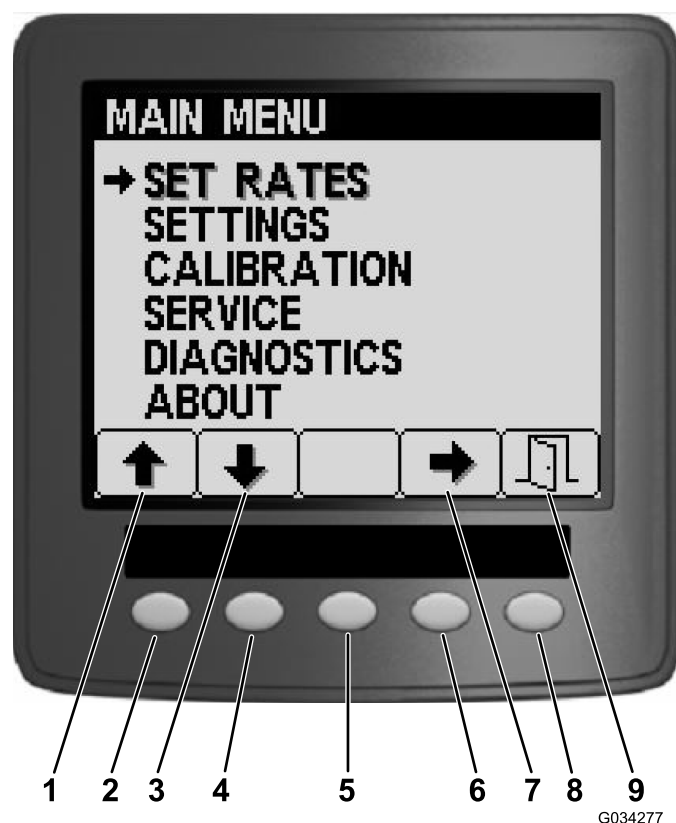
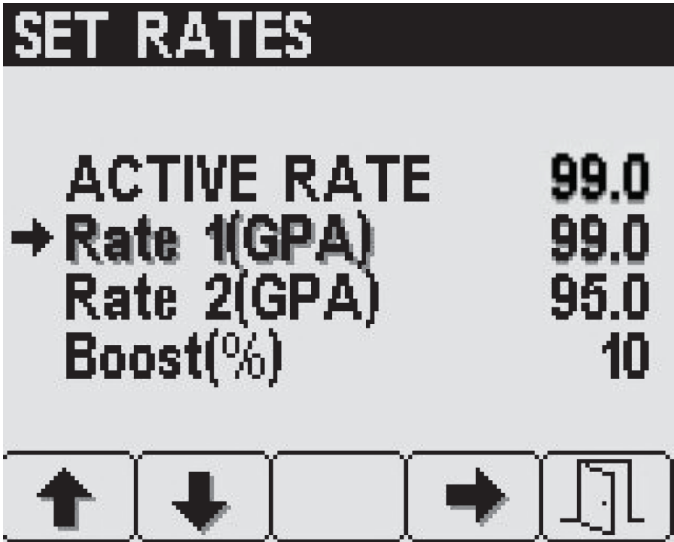
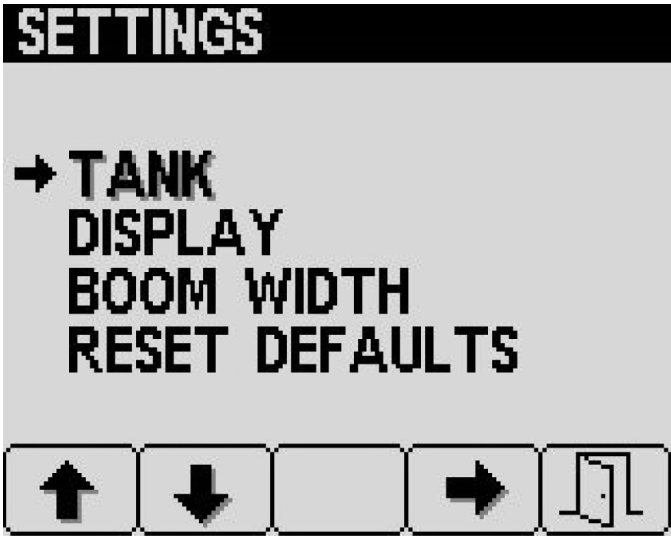

Figure 6
Figure 7
Figure 9
From the Main Menu screen, you can access the Set Rates screen, Settings screen, Calibration screen, Service screen, Diagnostics screen, or the About screen (Figure 6).
To access the Set Rates screen, press button 2 on the Main Menu screen (Figure 6) until you reach Set Rates and press button 4 to select Set Rates (Figure 7).
- 1. Press button 1 or 2 until you reach the desired rate or boost-rate percentage (Figure 7).
To access the Settings screen, press button 2 on the Main Menu screen (Figure 6) until you reach Settings and press button 4 to select Settings (Figure 9).
- 1. Press button 4 on the Settings screen to select Tank settings (Figure 9).
1. Press button 2 on the Settings screen until you reach Display settings and then press button 4 to select Display (Figure 9).
The boom-width settings are pre-populated at the manufacturing plant (Figure 9).